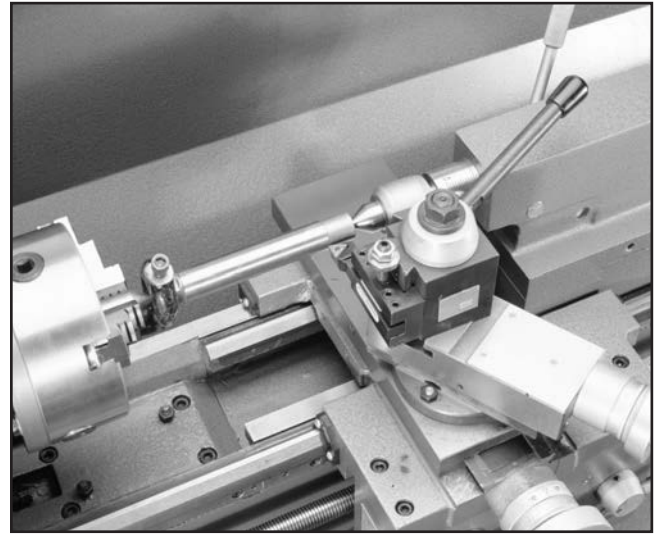

Figure 36. Bar stock mounted on centers.
4. Attach a lathe dog to the bar stock and mount it between the centers. See **Figure 36**.